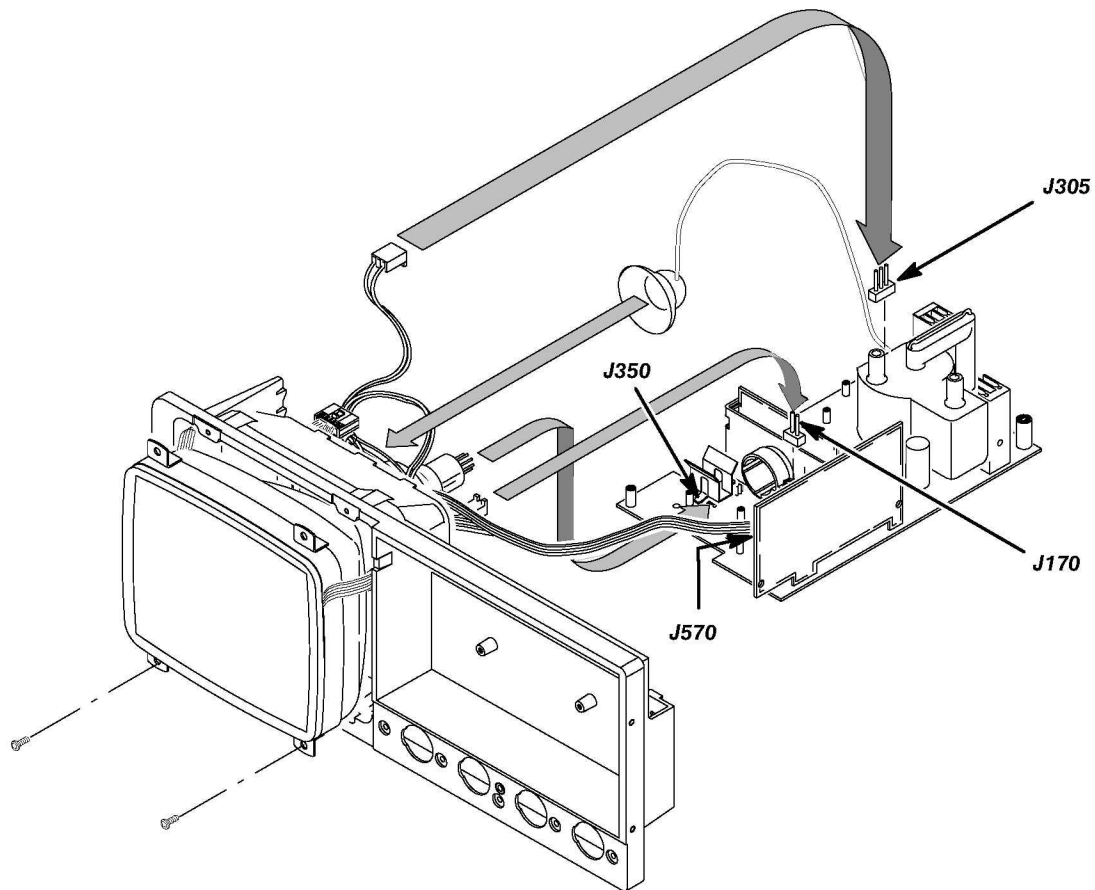
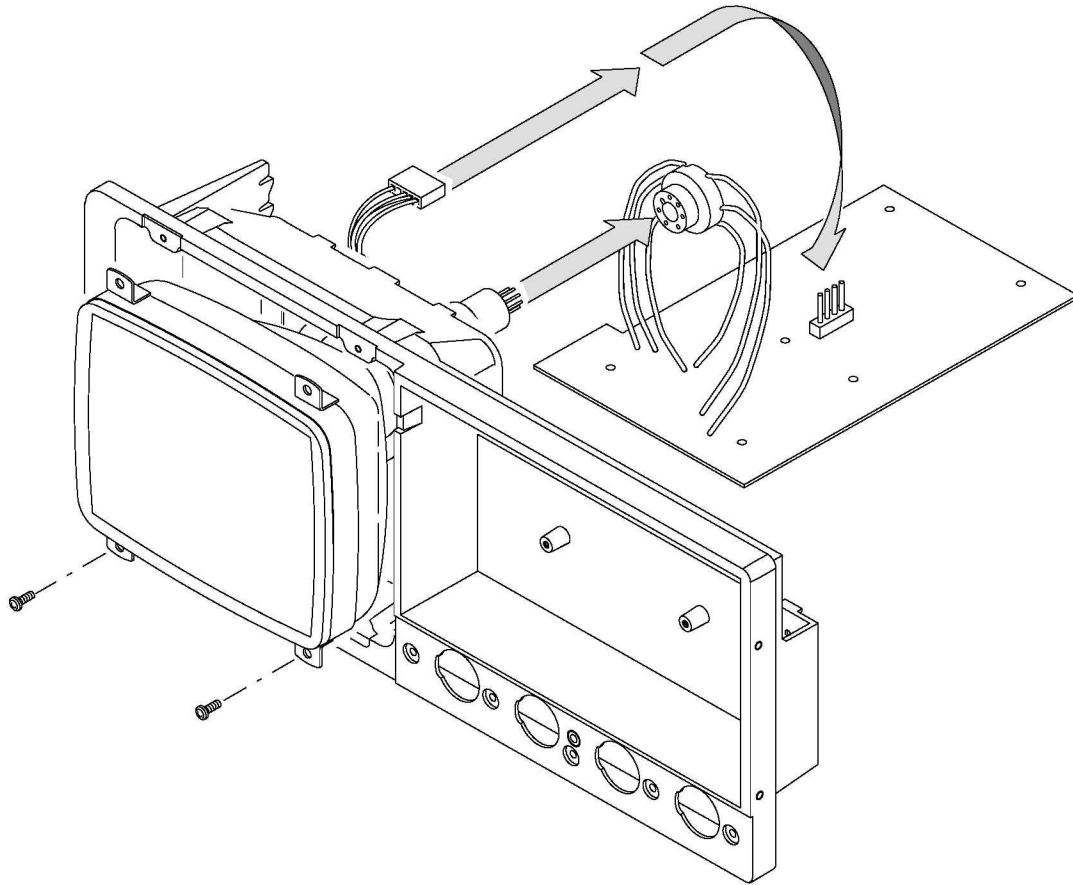

Figure 6-25: Display Assembly Removal – TDS 644A
Figure 6-26: Display Assembly Removal – TDS 620A and 640A
- a. Take the precautions outlined in the warning above. Reference Figure 6-25 (A30 – TDS 644A) or Figure 6-26 (A20 – TDS 620A and 640A) while doing the following substeps.